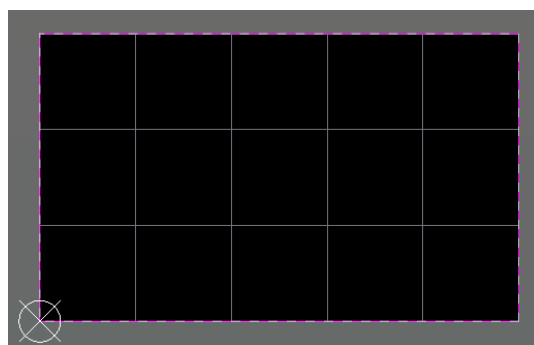

Figure 10. Rectangular board with Origin marker
36. Your PCB should now look similar to what you see at Figure 10.